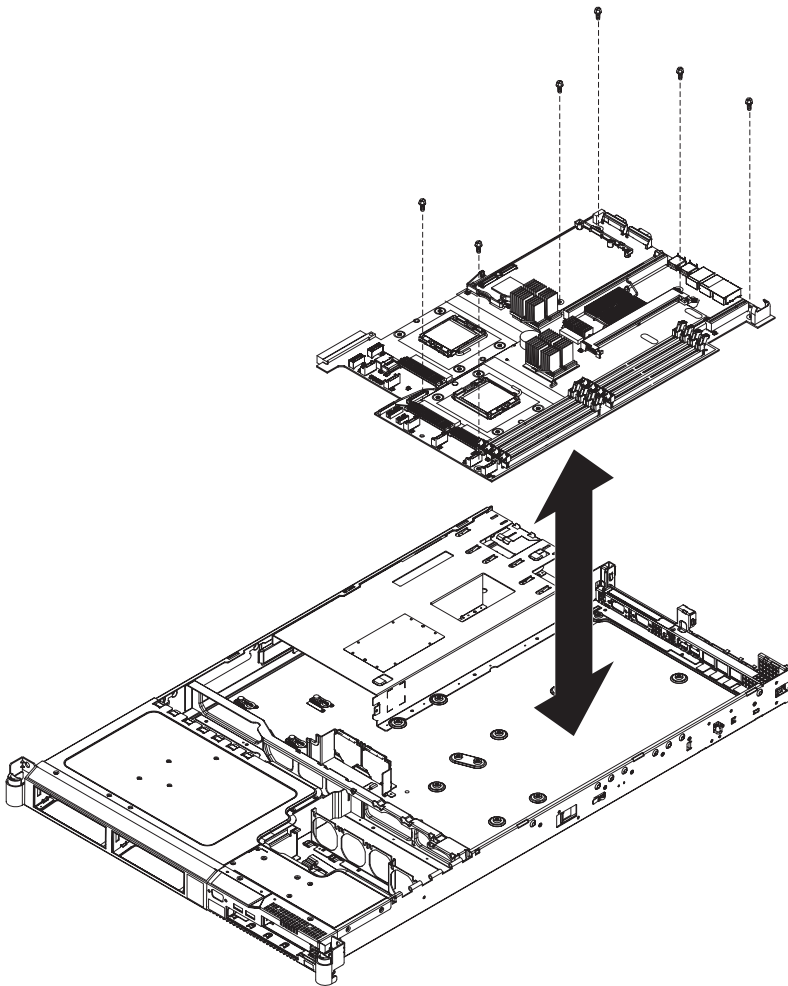

Figure 288. The placement of the screws that secure the SAN Volume Controller 2145-8G4 system board
19. Remove the six screws on the system board, as shown in Figure 288, that secure the system board to the chassis.